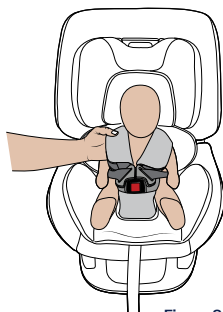

Figure 8
Step 1. Before pulling on adjuster strap to tighten harness, pull on harness shoulder straps first to remove slack from the waist area (Figure 8).